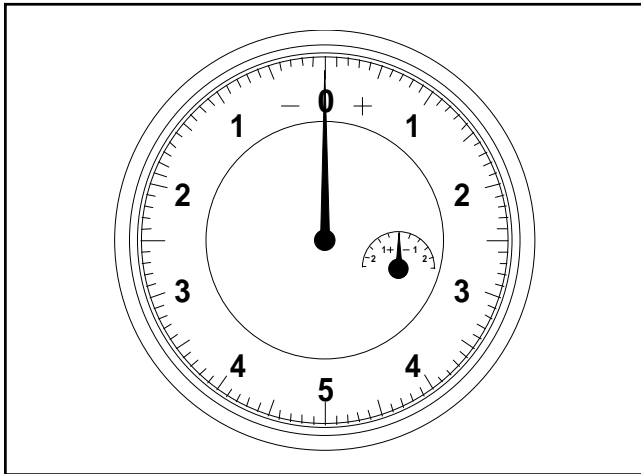

Figure 2. Pin Depth Gauge
- a. Beware of Destructive Pin Depth on Mating Connectors.* Measure the pin depth of the connector that mates with the RF component, *before* mating. Use an ANRITSU Pin Depth Gauge (Table 1, Figure 2) or equivalent. Based on RF components returned for repair, destructive pin depth on mating connectors is the major cause of failure in the field. When an RF component connector is mated with a connector having a destructive pin depth, damage will likely occur to the RF component connector. (A destructive pin
Outline Drawings: Figures 2 and 3 provide